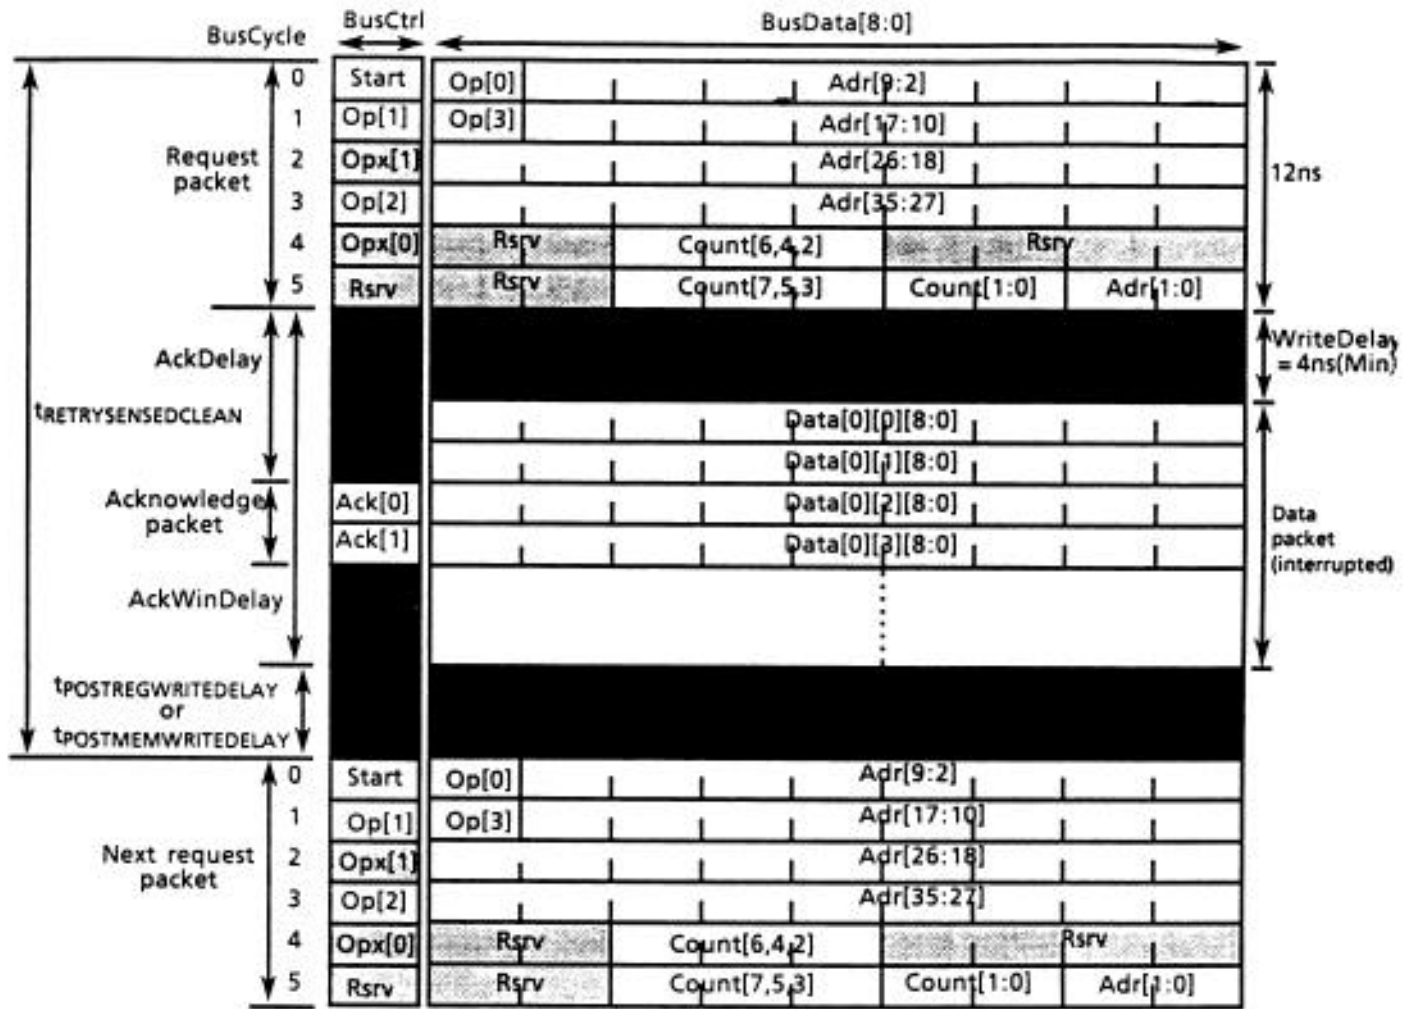

Figure 11. Write Operation for Memory or Register Address Space (Ack packet = Nack or Nonexistent)
- (2) Write Operations When Nack or Nonexistent is Returned (see Figure 11)